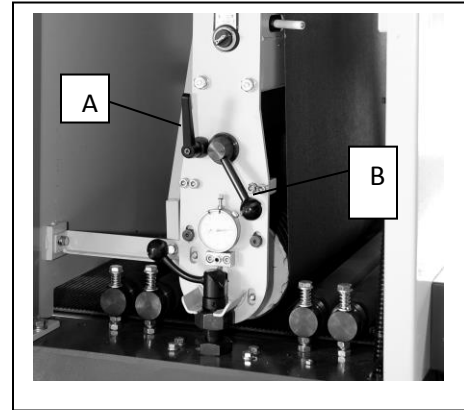

Figure 10.1
2. Loosen locking lever (A figure 10.1)
3. Rotate drum adjustment lever (B figure 10.1) to raise or lower the contact drum using the dial indicator to check the amount of movement of the drum per the distance you determined in step 1.
4. Tighten locking lever (A figure 10.1)